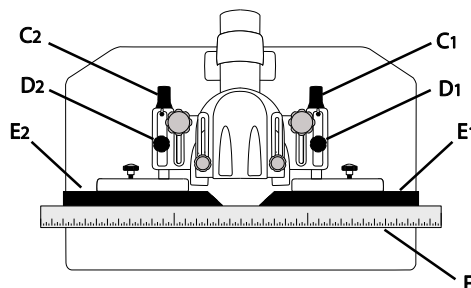

Figure 7
2. Adjust the *fence assembly* (A) so it is positioned approximately at midpoint and lock (B).
3. Place a *straightedge* (F) on the table pressed against the *infeed* (E1) and *outfeed* fences (E2).
**No adjustment is required** if both fences are flush with the straightedge as shown in Figure 7. Proceed to *Ram Dial Calibration* (step 00).